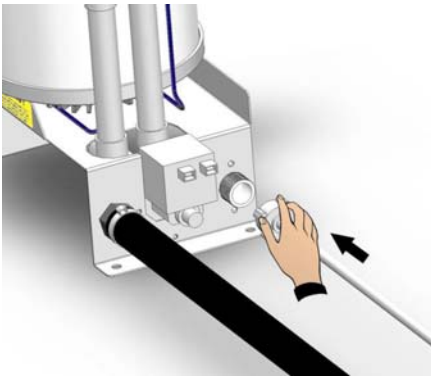

Fig. 21
4. Connect the water inlet line to the $\frac{3}{4}$ GAS connector of the solenoid valve (fig. 21 and 22).